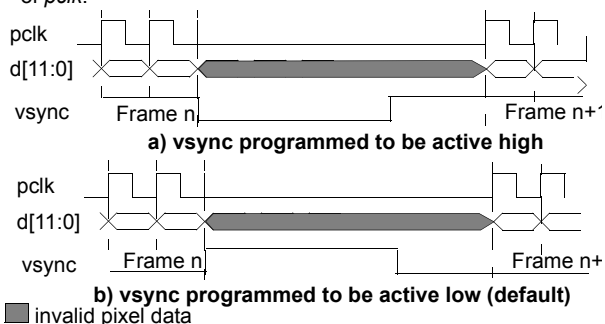

Figure 44. *vsync* in pulse mode
- Pulse mode should be used when the pixel clock, *pclk*, is programmed to operate in *data ready mode*. In pulse mode the *vsync* output pin will produce a pulse at the end of each frame. The width of the pulse will be a minimum of four *hclk* cycles and its polarity can be programmed as shown in Figure 44. The *vsync* level is always synchronized to the active edge of *pclk*.